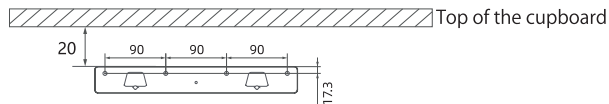

Fig 1
- As shown in Fig. 1, determine the drilling position and drill 4 holes of $\phi 10\text{mm}$ (depth 50mm) with an impact drill. Then drill $\phi 10 \times 50\text{mm}$ expansion pipes into the drilled holes (it is prohibited to use expansion pipes and screws with poorer load-bearing performance than the standard ones). Align the fixing holes of the wall mount standard bucket with the holes where the expansion pipe is buried, and then use four ST5 \times 50mm wood screws to connect and fix the wall mount standard bucket with the wall.